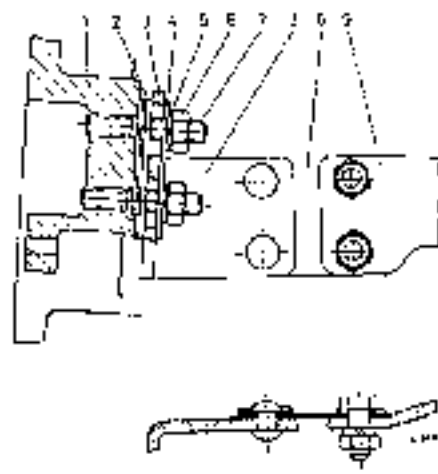

Fig. 26-1/7
The shaft is centered vertically by shifting the bracket (3) (Fig. 26-1/6).
Note: On recent models the brackets (3) have two standard bores instead of the two slits. The spacer (4) is no longer required (Fig. 26-1/8).
In order to facilitate vertical centering of the clutch pedal shaft, the two bores in the swivel support (9) have been enlarged in diameter from 6.4 to 7.0 mm. If a new bracket (3) is installed subsequently, the two bores in the swivel support must be bored to a diameter of 7 mm (Fig. 26-1/7).
- In the case of Models 180 a, 180 b, 190 C, and 190 Db adjust the length of the damping spring (8) to 15.5 mm by screwing in